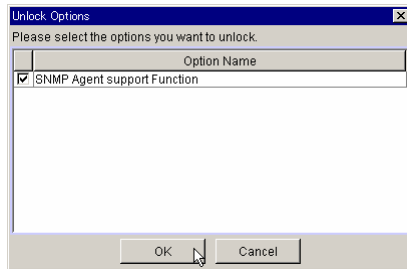

Figure 4.3 Options Selection Dialog
8. When you unlock the options using the key file, the options selection dialog is displayed, make sure the **Option Name** and click the **OK** button (Figure 4.3).